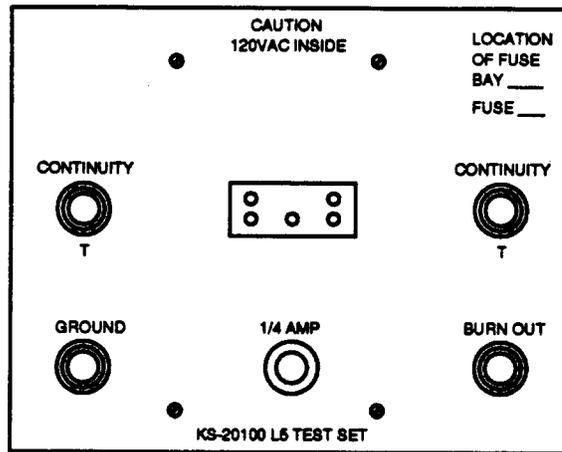

Figure 5. KS-20100, L5 Test Set
- 5.02** The KS-20100, L5 test set (Figures 5 and 6) is used to test for the presence or absence of tip and ring continuity as well as shorted or grounded protector blocks. The KS-20100 test set also provides a burnout feature to clear protector blocks shorted by carbon or dust particles. For the KS-20100 test set piece-part replacement, see AT&T 201-208-803.